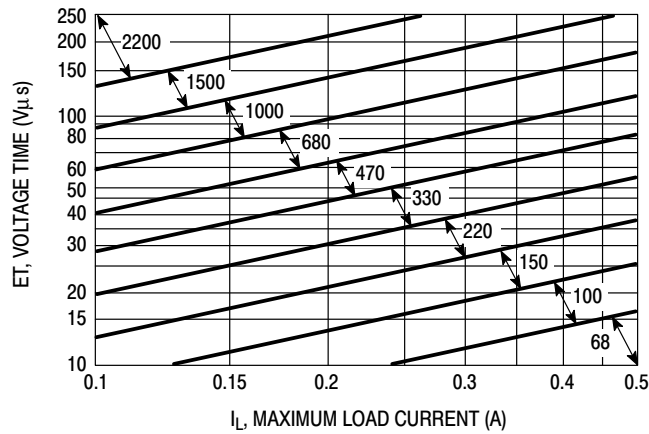

Figure 23. LM2574-ADJ
4. Inductor Selection (L1) A. Use the following formula to calculate the inductor Volt x microsecond [V x μs] constant: $E \times T = (V_{in} - V_{out}) \times \frac{V_{out}}{V_{in}} \times \frac{10^6}{F[Hz]} [V \times \mu s]$ B. Match the calculated E x T value with the corresponding number on the vertical axis of the Inductor Value Selection Guide shown in Figure 23. This E x T constant is a measure of the energy handling capability of an inductor and is dependent upon the type of core, the core area, the number of turns, and the duty cycle. C. Next step is to identify the inductance region intersected by the E x T value and the maximum load current value on the horizontal axis shown in Figure 27. D. From the inductor code, identify the inductor value. Then select an appropriate inductor from Table 2. The inductor chosen must be rated for a switching frequency of 52 kHz and for a current rating of $1.15 \times I_{Load}$. The inductor current rating can also be determined by calculating the inductor peak current: $I_{p(max)} = I_{Load(max)} + \frac{(V_{in} - V_{out})t_{on}}{2L}$ where t_{on} is the "on" time of the power switch and $t_{on} = \frac{V_{out}}{V_{in}} \times \frac{1.0}{f_{osc}}$ For additional information about the inductor, see the inductor section in the "External Components" section of this data sheet.	4. Inductor Selection (L1) A. Calculate E x T [V x μs] constant : $E \times T = (40 - 24) \times \frac{24}{40} \times \frac{1000}{52} = 105 [V \times \mu s]$ B. $E \times T = 185 [V \times \mu s]$ C. $I_{Load(max)} = 0.4$ A Inductance Region = 1000 D. Proper inductor value = 1000 μH Choose the inductor from Table 2.